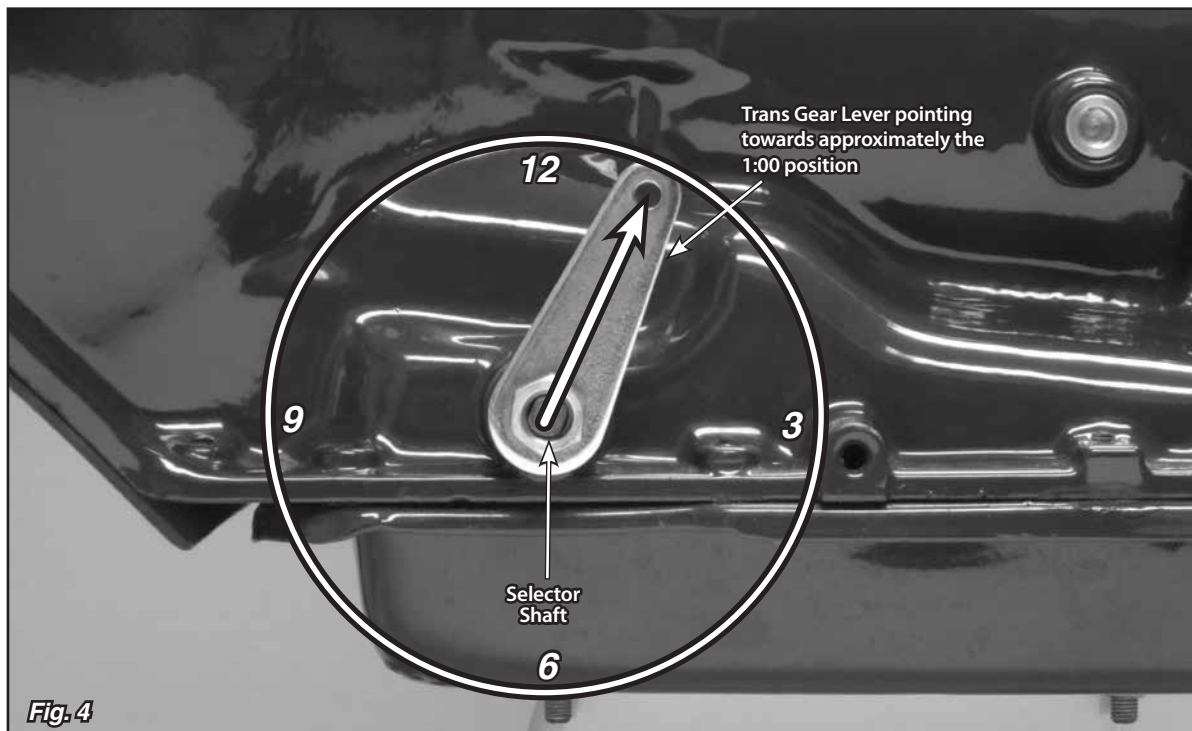

Fig. 4
Step 9: Remove the rod end from the new trans gear lever. Install the trans gear lever onto the transmission and secure with your original nut. Place the trans gear lever in the Park position with the top of the lever pointing up and slightly towards the rear of the transmission, at about the 1:00 position. **Fig. 4**